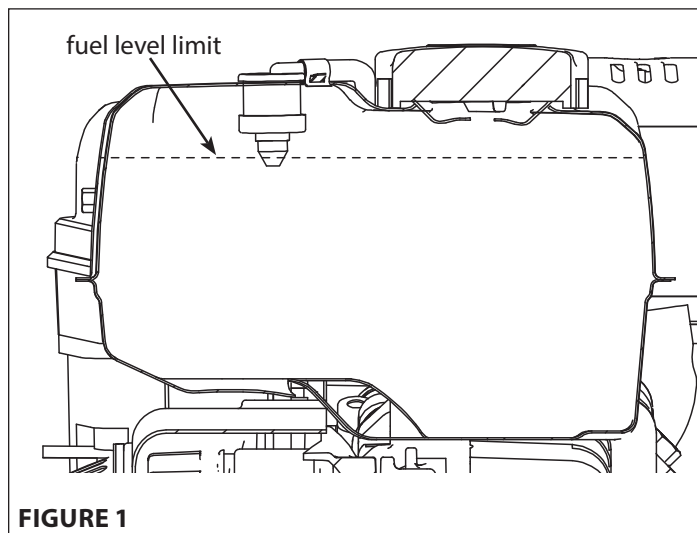

FIGURE 1
3. Fill tank to fuel level limit. **SEE FIGURE 1**